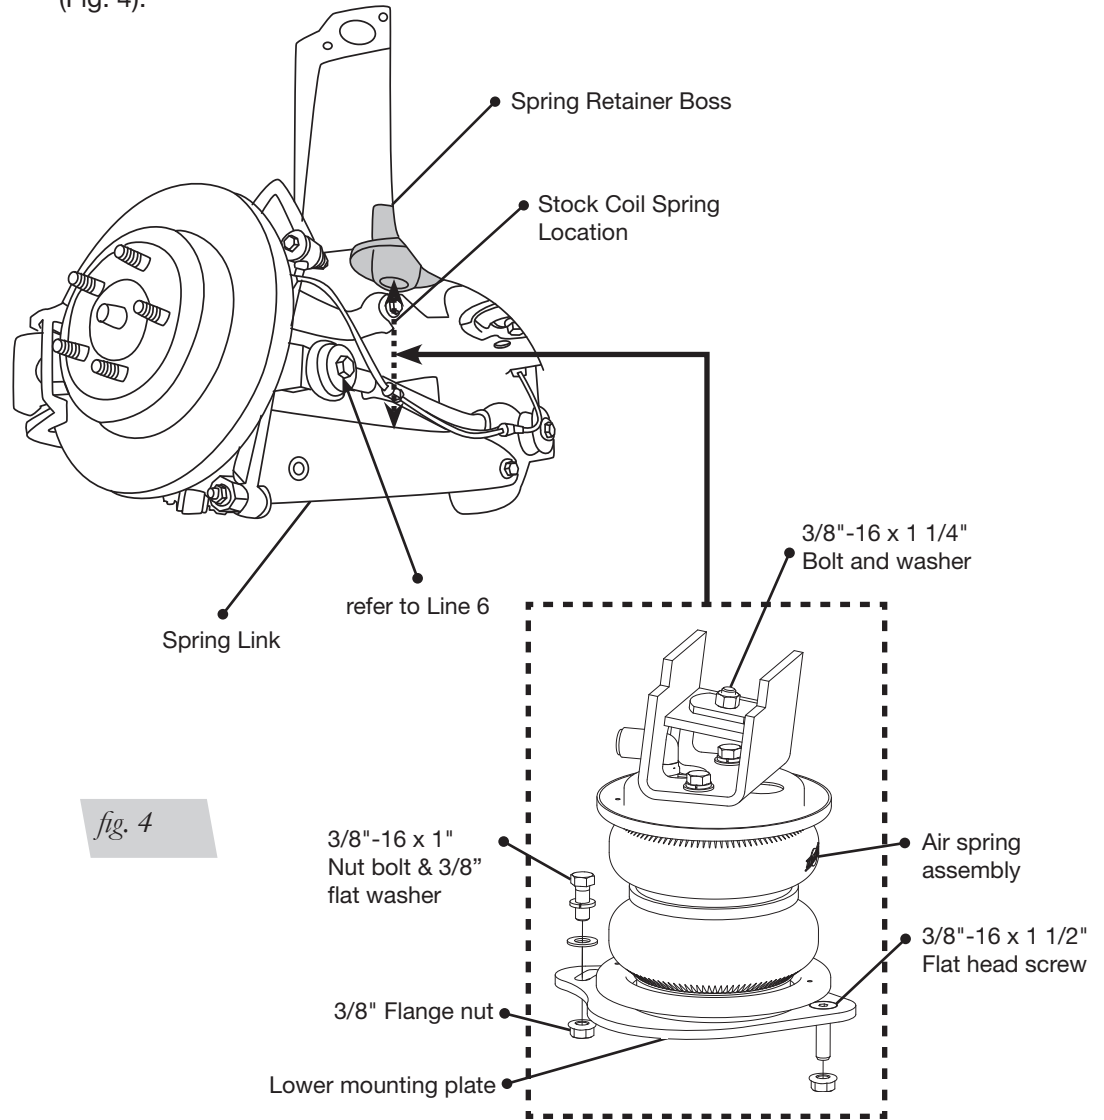

fig. 4
3. Insert and snug nut and bolts into existing holes required for lower spring link (Fig. 4).